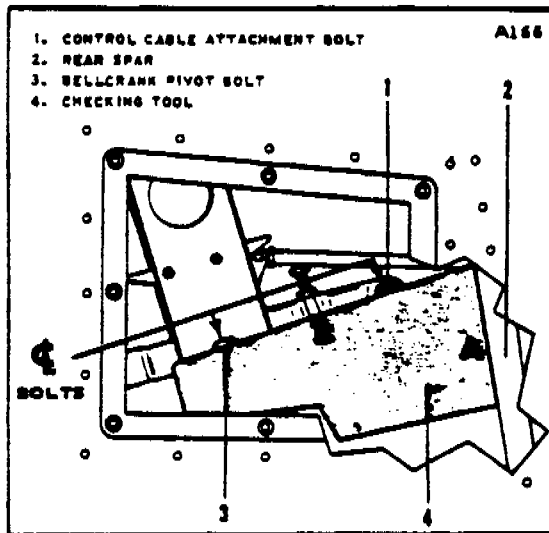

FIGURE 5-3. INSTALLATION OF BELLCRANK CHECKING TOOL
a. To rig the aileron controls, set the aileron bellcrank in neutral by positioning a special aligning tool within the wing as shown in Figure 5-3. (This tool may be fabricated from dimensions given in Figure 5-13.) The tool (Side A) uses the inside surfaces of rear spar as reference. Align Side B with centerlines of the bellcrank attaching bolt and turnbuckle attaching bolt.